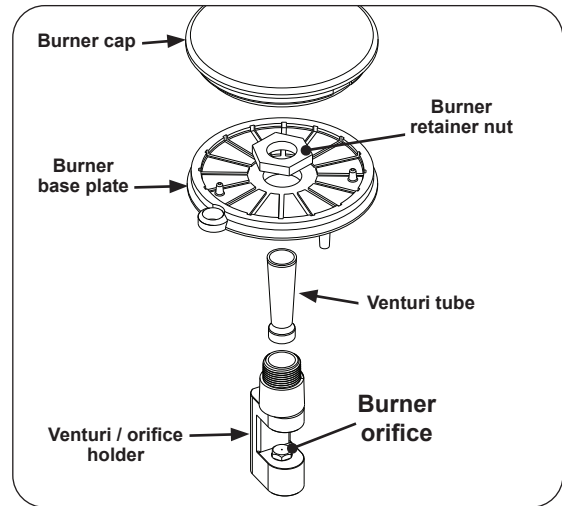

Fig. 32-1 Burner details
2. Remove the retainer nut using an adjustable wrench (see Fig. 32-1).
3. Remove the burner base plate and the venturi tube (see Fig. 32-1).
4. Carefully lift out the entire sideburner body from the enclosure and carefully set it on it's side to access the venturi/orifice holder. See Fig. 32-1.